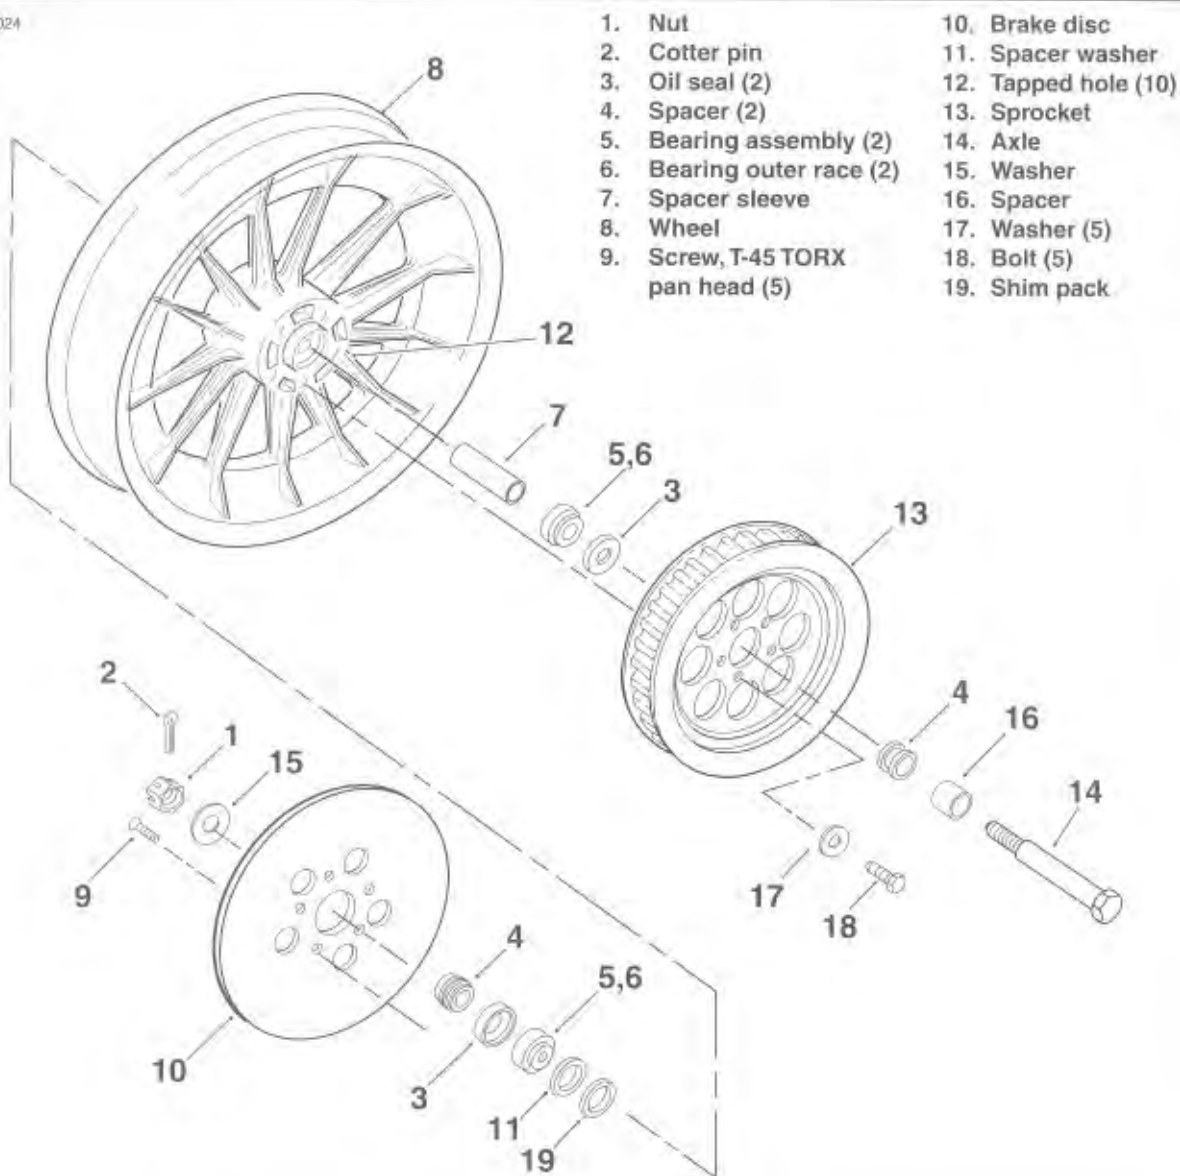

Figure 2-9. Cast Rear Wheel
5. Remove spacer (16, Figure 2-9; 18, Figure 2-10) and rear wheel assembly.
Cast Wheel (Figure 2-9)
2. Apply LOCTITE ANTI-SEIZE LUBRICANT to axle (14, Figure 2-9; 16, Figure 2-10). Insert axle through right side of rear fork, spacer (16, Figure 2-9; 18, Figure 2-10), wheel assembly, rear caliper bracket and left side of rear fork.
4. See Figure 2-9 and Figure 2-10. Mount a magnetic base dial indicator on the brake disc. Set the indicator contact point on the end of the axle. Move the wheel back as far as it will go. Holding the wheel in position, zero the dial indicator gauge. Move the wheel forward as far as it will go. Note the reading of the dial indicator. The lateral movement or end play must fall between 0.002 and 0.006 in. (0.05-0.15 mm). Repeat the procedure to verify the reading.
5. Remove the wheel and substitute thicker spacer shim(s) (19, Figure 2-9; 8, Figure 2-10) if the end play must be increased. Use thinner spacer shim(s) to reduce the end play. See the following table for the available spacer shim thicknesses.